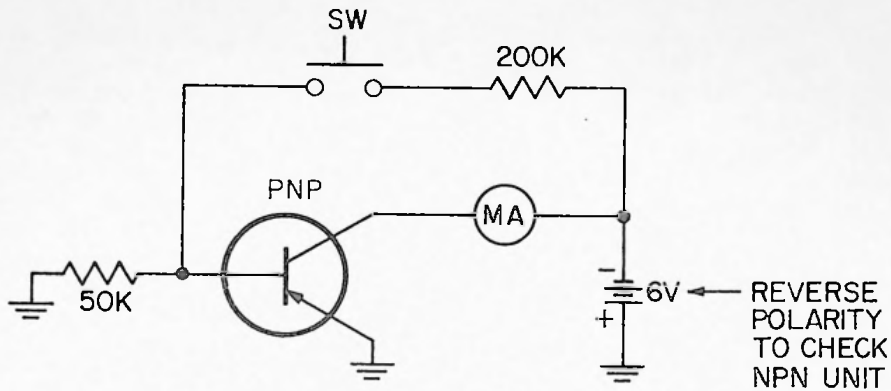

Figure 3. Current gain test circuit.
b. Current Gain Measurement. The current gain of a transistor circuit is defined as the change in collector current caused by a change in the base current. Figure 3 shows a simple circuit used to measure the current gain of a PNP-type transistor in a grounded-emitter circuit. (Like the voltage gain test described above, this test is only effective at low frequencies.) First, the meter in the collector circuit is read with no current applied to the base (pushbutton switch open). Then, the pushbutton switch is depressed (applying a small current to the base) and another reading is taken of the meter in the collector circuit. The difference between the two readings divided by 0.03 will give the approximate CE current gain of the transistor under test. A comparison of the actual current gain with the rated current gain of the transistor indicates whether or not there is a satisfactory amplification level. The meter reading with the pushbutton switch open should also provide an indication of the leakage current (reverse bias current flow between the base and collector) of the transistor. The test circuit battery should be checked periodically; the meter should read about 3 ma when a 2000-ohm resistor is inserted between the collector and emitter.